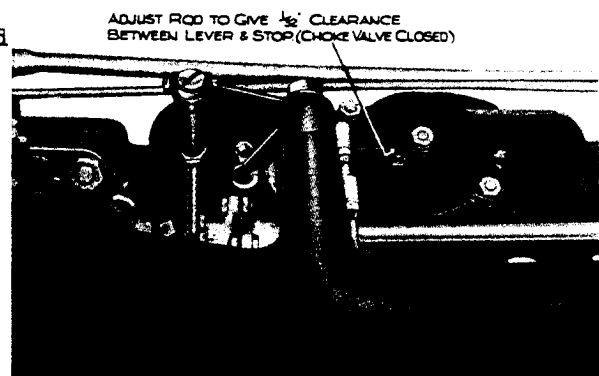

FIG. 1. ADJUSTMENT OF THERMOSTAT LEVER.
- (iv) Check the clearance between thermostat lever and its stop, as shown in Fig. 1.